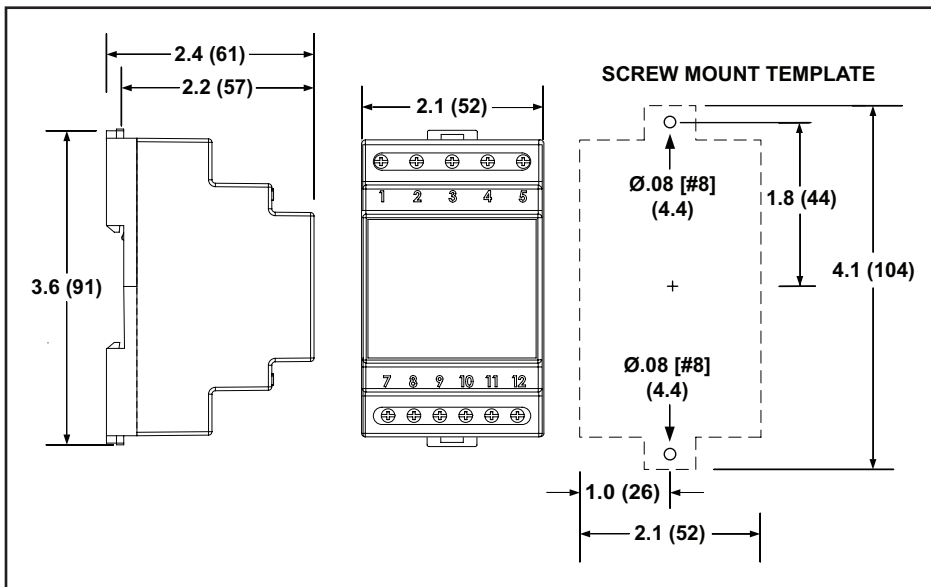

Fig. 1 Dimension Drawing: Inches (mm)
- For DIN-rail mounting, snap the relay onto the 35mm DIN track. For panel mounting, refer to instructions and Fig. 1 Dimension Drawing on page 3.